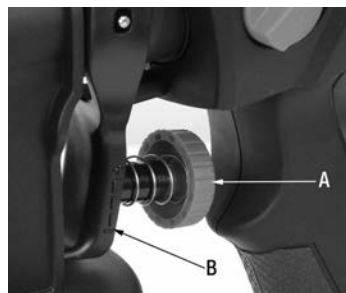

Figure 6
This spray gun comes with an adjustable paint flow rate control dial (A) Fig.6 located on the rear of the trigger (B). To adjust: Simply turn the paint flow rate control dial clockwise to increase (+) or counterclockwise to decrease (-) the flow.